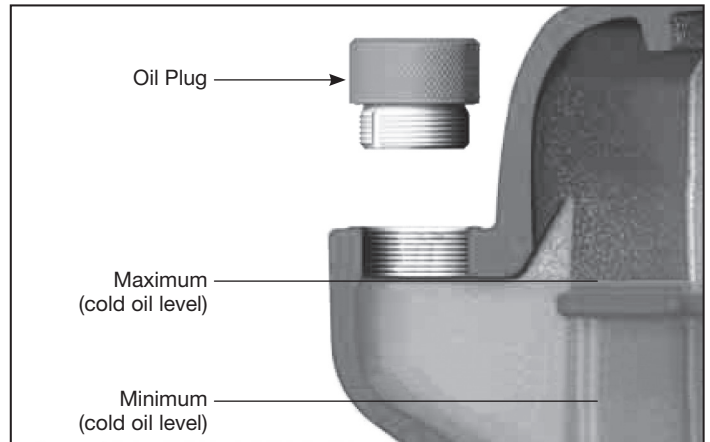

Figure 7 - Oil Level
▲ CAUTION *THIS UNIT CONTAINS OIL. Before operating compressor, check oil level (see Figure 7).*
OIL LEVEL CHECK (See Figure 7)
5. If necessary, top off oil of the same oil type and the same brand up to the maximum level (see Figure 7 and Lubrication section).
1. Check oil level (See Figure 7).